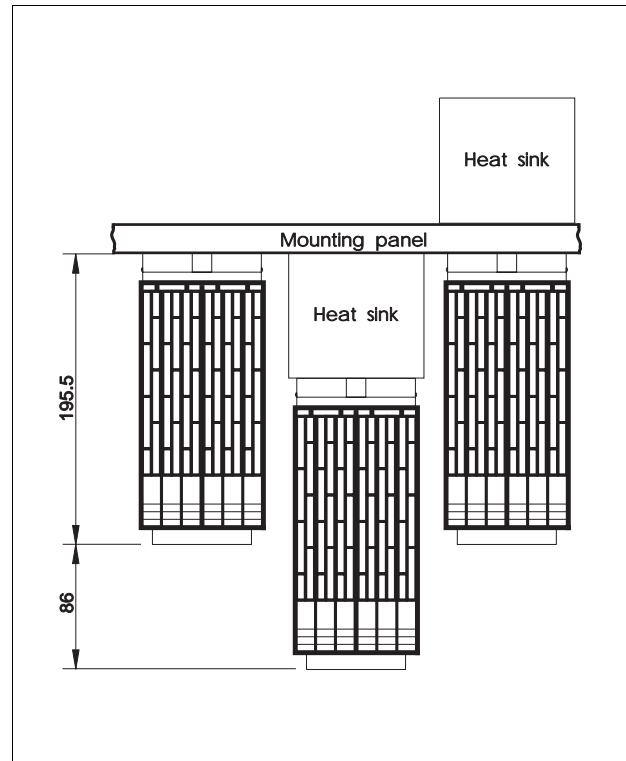

Fig. 6-11 Heat sink mounting
The heat sink (fig. 6-11 and 6-12) can be attached inside the switch cabinet or on its outer surface.
1. The heat sink is mounted inside the cabinet (fig. 6-11).
1. The heat sink is mounted on the outer cabinet surface (fig. 6-11).